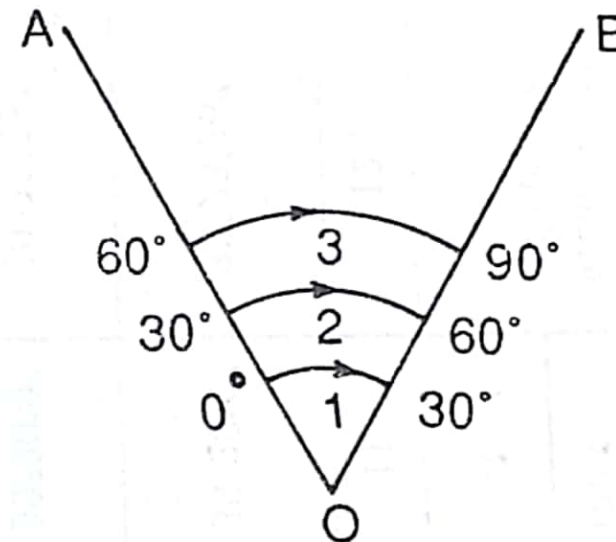

Fig. 9.8
1. Suppose the angle $\angle AOB$ (Fig. 9.8) is to be measured by the repetition process. The theodolite is set up at O. The instrument is centred and levelled properly. Vernier A is set to 0° and vernier B to 180° .